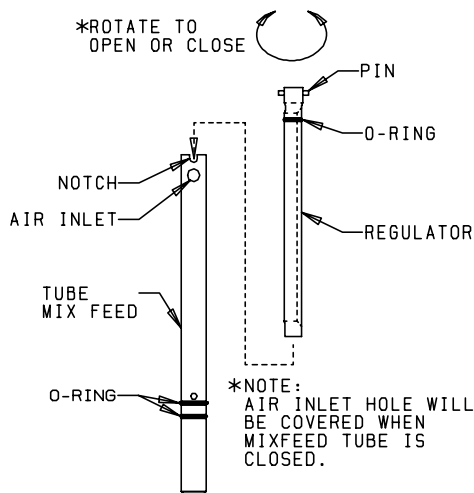

Figure 8-5 Assemble the mix feed tube
12. Install the O-rings on the mix feed tube and regulator as shown in figure 8-5.